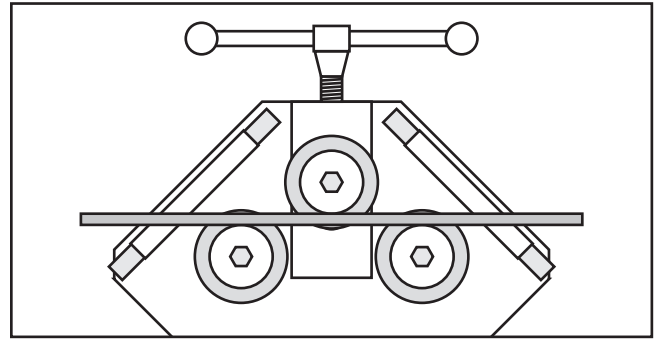

Figure 14. Upper roller lowered onto workpiece.
3. Move upper roller down until it just touches workpiece, as shown in **Figure 14**, then connect machine to power.